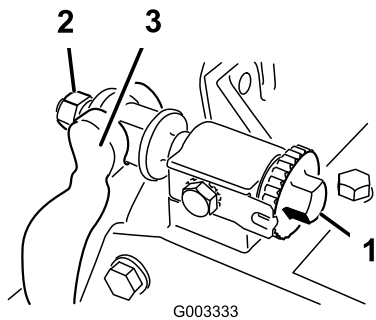

Figure 60
- 1. Turn the bedbar adjuster screw, counterclockwise, to back the bedknife away from reel (Figure 60).